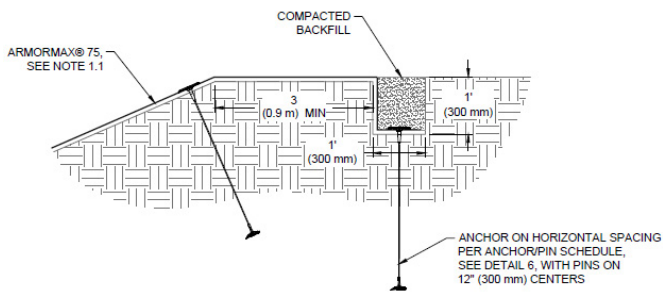

Figure 1A: Crest of Slope (COS) Trench
4. Excavate a Crest of Slope (COS) trench 12 in x 12 in (300 mm x 300 mm) minimum at a distance of 3 ft (900 mm) from the crest of the slope. (Figure 1a).